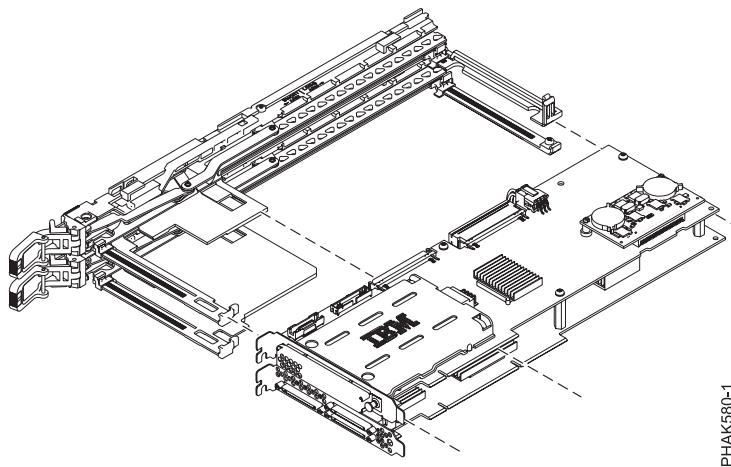

Figure 73. Pulling the double-wide adapter away from the cassette assembly
12. Pull the double-wide adapter away from the cassette assembly and carefully place it on an ESD protective surface. See Figure 73.